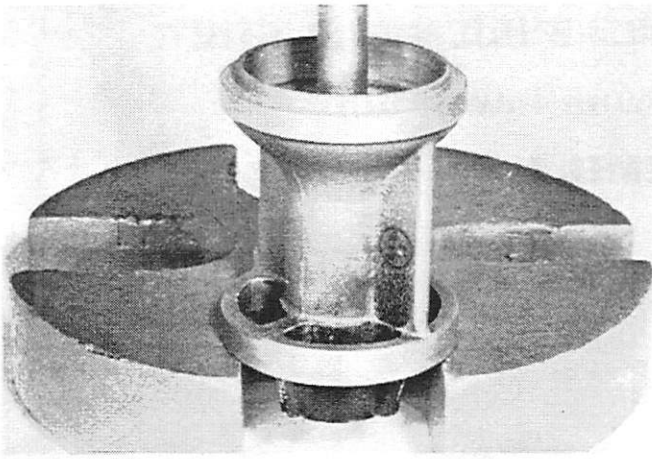

Figure 4. Pressing Bearing out of Carrier
11. Press or tap roller bearing and seal from carrier with Driver Head (91-37311). (Figure 4)